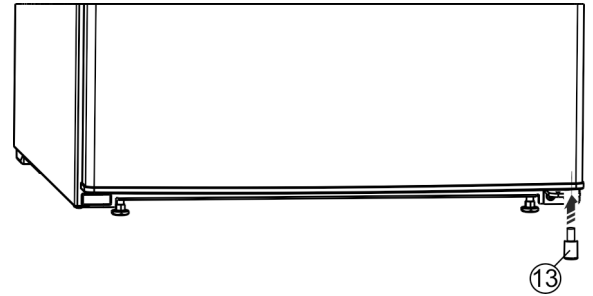

Fig. 27*
- ▶ Insert the spacer Fig. 27 (13) back under the right-hand side of the door, as it is important for the stability of the appliance.*